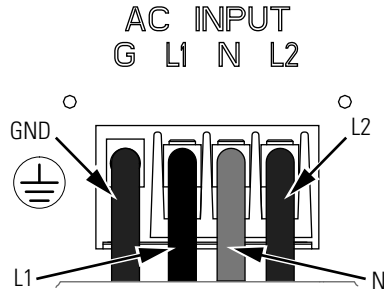

Figure 33. UPS Input Wiring
2. At the AC Input terminal, make sure to wire the UPS for the proper input voltage as shown in Figure 33.